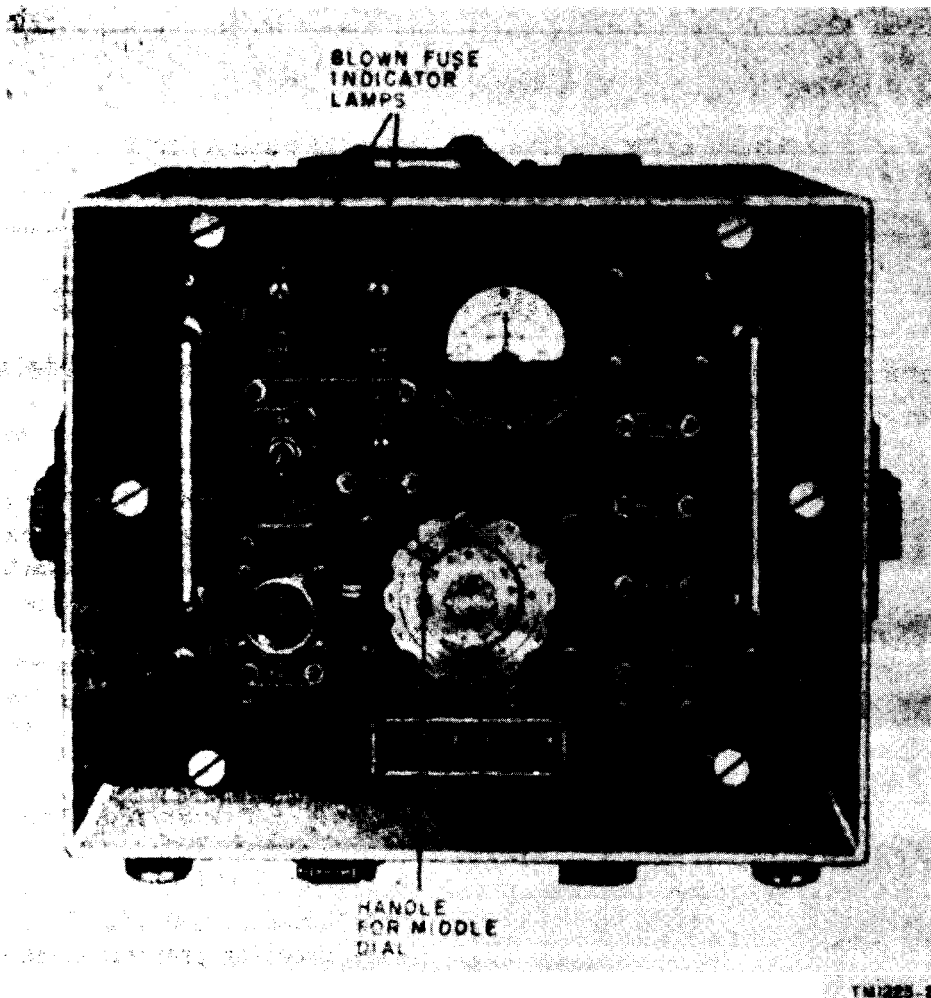

Figure 4. Computer Test Set TS-909/PPM, front panel.
The following chart lists the controls and instruments of the test set (fig. 4) and their functions:
10. Connections (fig. 4)
sents 30 ohms. The middle dial, operated by a handle fixed to it (fig. 4), controls a 10-position step switch. Each marking represents 100 ohms. With the outer dial set at zero, the middle dial set at 4, and the inner dial half-way between 5 and 6, the reading is 455 ohms. The outer dial is turned by grasping it at its outer edge and also controls a 10-position step switch. Each marking represents 1,000 ohms.